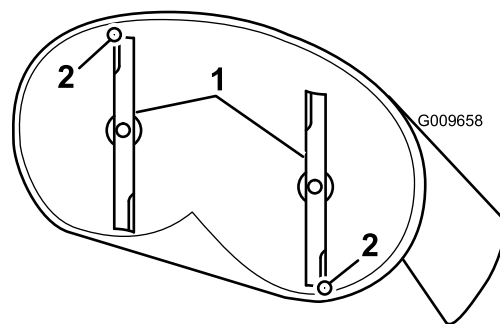
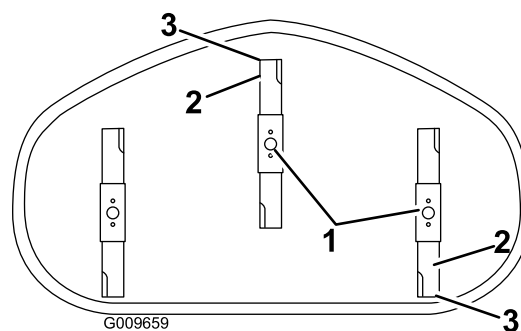

Figure 64
Figure 65
4. Carefully rotate the blades so they are facing front to rear (Figure 64 and Figure 65).
5. Measure from the tip of the front blade to the flat surface and the tip of the rear blade to the flat surface (Figure 64 and Figure 65). If the front blade tip is not 1/16-5/16 inch (1.6-7.9 mm) lower than the rear blade tip, adjust the front locknut.
8. After adjustment, check the front-to-rear slope again. Continue adjusting the nut until the front blade tip is 1/16-5/16 inch (1.6-7.9 mm) lower than the rear blade tip (Figure 64 and Figure 65).